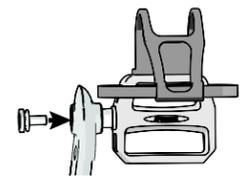

Figure 13
3. Secure the pedal using one bolt **4** (Figure 13) and torque to 33 ft-lb (45 N-m) with the hex key **6**.